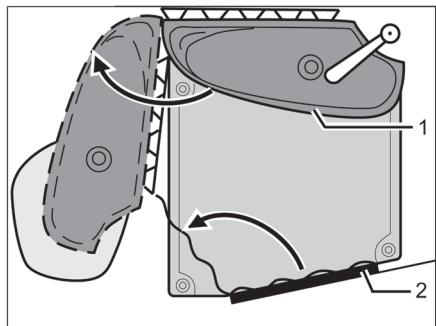

Fig. 183 Vario toilet
- ▶ Open all drain cocks. To do this, set the toggle lever (Bild 183,1) vertically.
- Rotate the wash basin with rear panel (Fig. 183,1) in the direction of the arrow.
- Enter the toilet area and close and lock the toilet entrance door (Fig. 183,2) from the inside.